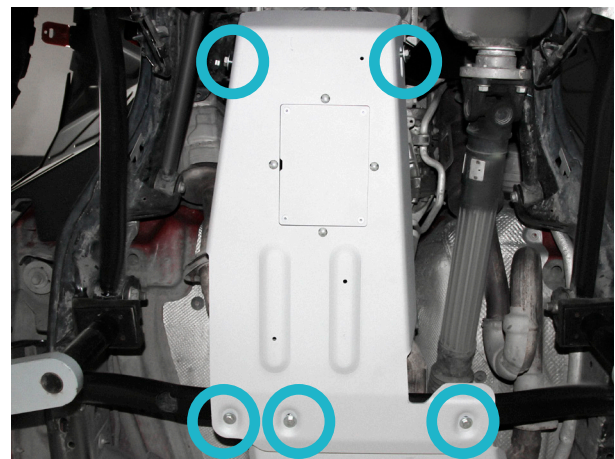

Fig.10
5. Install engine skid plate (pos.1) fixing its front end with bolts M10x30 (pos.D), washers 10 (pos.H) to mount bracket (pos.2, pos.3). Fix rear end with bolts M8x35 (pos.B), washers 8 (pos.G) to insert nut M8 with wires (pos.I) (fig.10).
11. Install engine skid plate (pos.1) fixing its front end with bolts M10x30 (pos.D), washers 10 (pos.H) to mount bracket (pos.2, pos.3). Fix rear end with bolts M8x35 (pos.B), washers 8 (pos.G) to insert nut M8 with wires (pos.I) (fig.10).